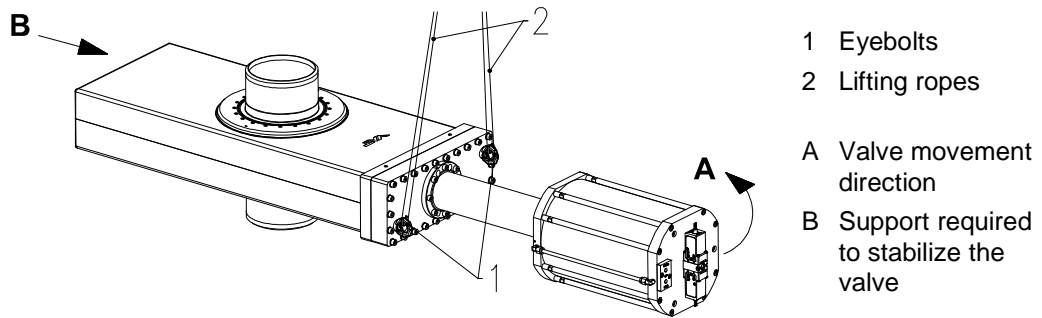

Figure 4-1
Open the outer plastic bag protecting the valve only at the points where you need access to the eyebolts (1) for fastening the crane hooks; see «Figure 4-1» on page 10. Keep valve in the plastic bag until it is being installed into the system.
<p>Wrong lifting Valve may crash and get damaged. Use only the eyebolts shown in the dimensional drawing and in «Figure 4-1» on page 10 to lift the valve. Using any other components (e. g. position indicators, solenoids) to lift the valve is strictly forbidden.</p>
Use a crane for lifting valve out of the transport box; see «Figure 4-1».